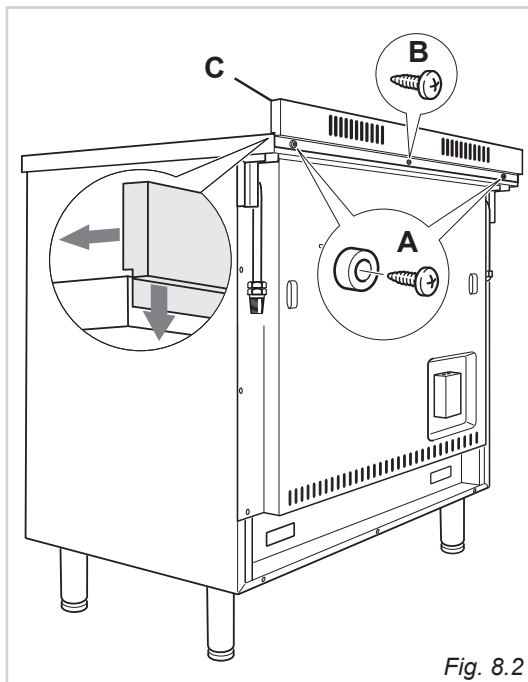

Fig. 8.2
Before installing the cooker, assemble the backguard "C" (fig. 8.2).
- Assemble the backguard as shown in figure 8.2 and fix it by screwing the central screw "B" and the spacers "A".